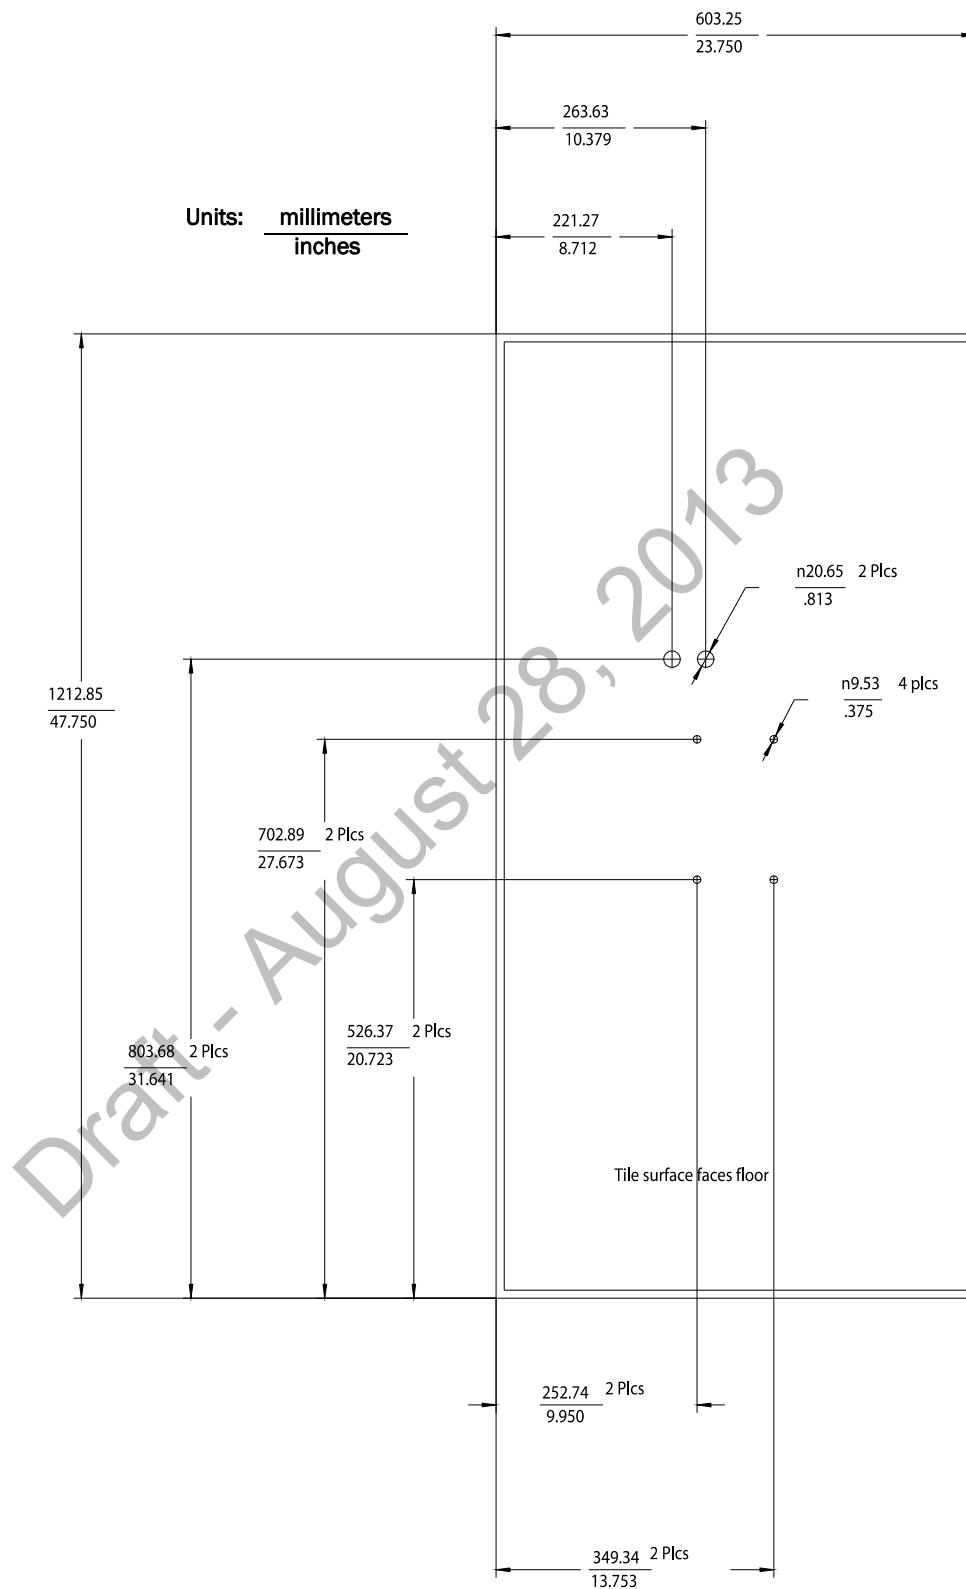

Figure 2-8: Core AP Below Ceiling Tile Hole Locations and Dimensions
3. Refer to Figure 2-8 for all dimensions and hole locations. Place the mounting rails across the tile (underside of tile). For ceiling tiles that are smaller than standard 2' x 4' size ceiling tile, the mounting rails can be cut down in length at the u-shaped cutouts.